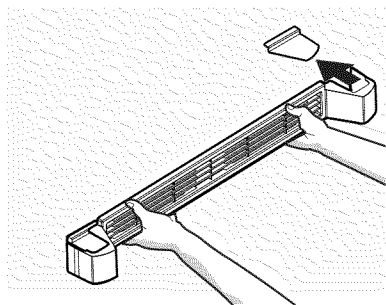

Figure 2
2. If toe grille covers are already installed, remove the cover on the side corresponding with the door hinge bracket. See Figure 2.